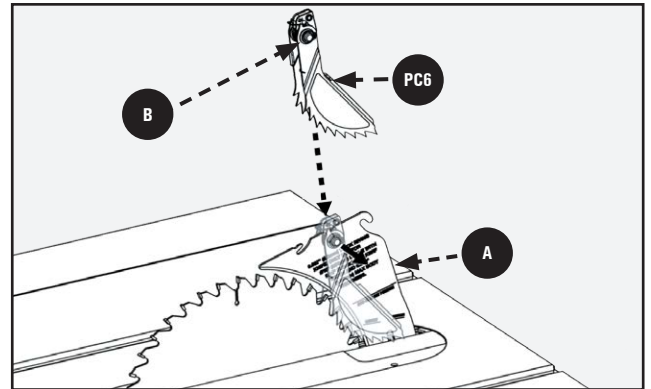

FIGURE 13
1. Refer to Figure 13 and locate the Anti-Kickback Pawls Mounting Slot in the middle of the top edge of the Riving Knife **A**.